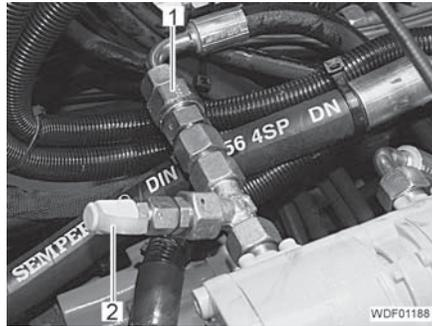

Fig. 29 Test connection P_H
- Install the T-screw connection with non-return valve (Fig. 29,1) and test adapter (Fig. 29,2) into one of the two hydraulic lines between the gear pump and the pressure filter.